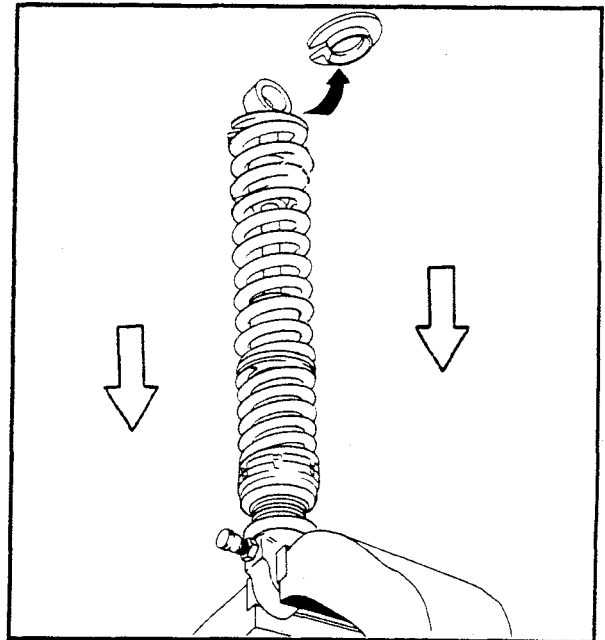

Figure 5-7. Spring Removal
2. See Figure 5-7. Clamp the shock absorber in a shock absorber spring compressor and compress the springs. Remove the spring collar and springs.